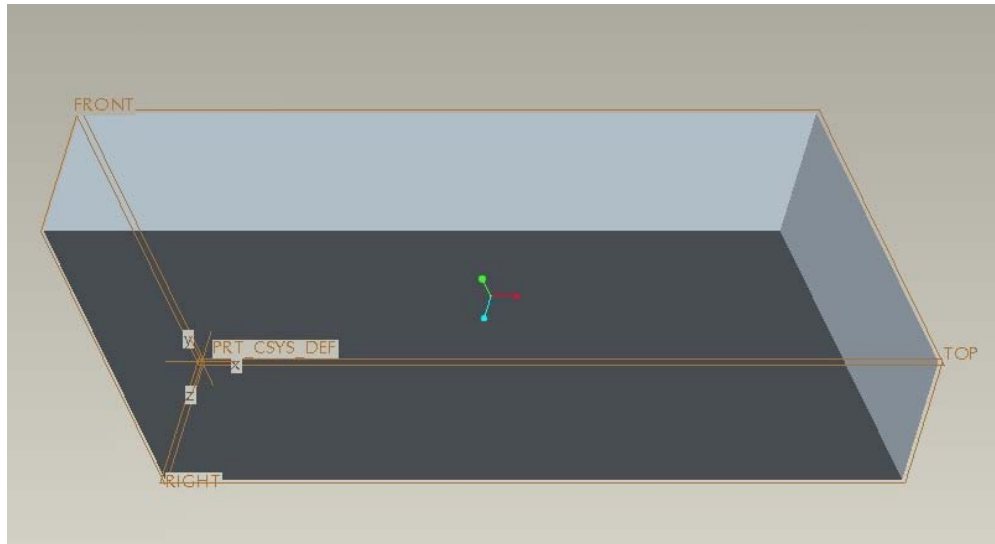

Figure 1.8 Block
5. Create a 4" x 8" x 1.5" rectangular block as shown in Figure 1.8.
- View the rectangular block as shown in Figure 1.8. View → Orientation → Standard Orientation.